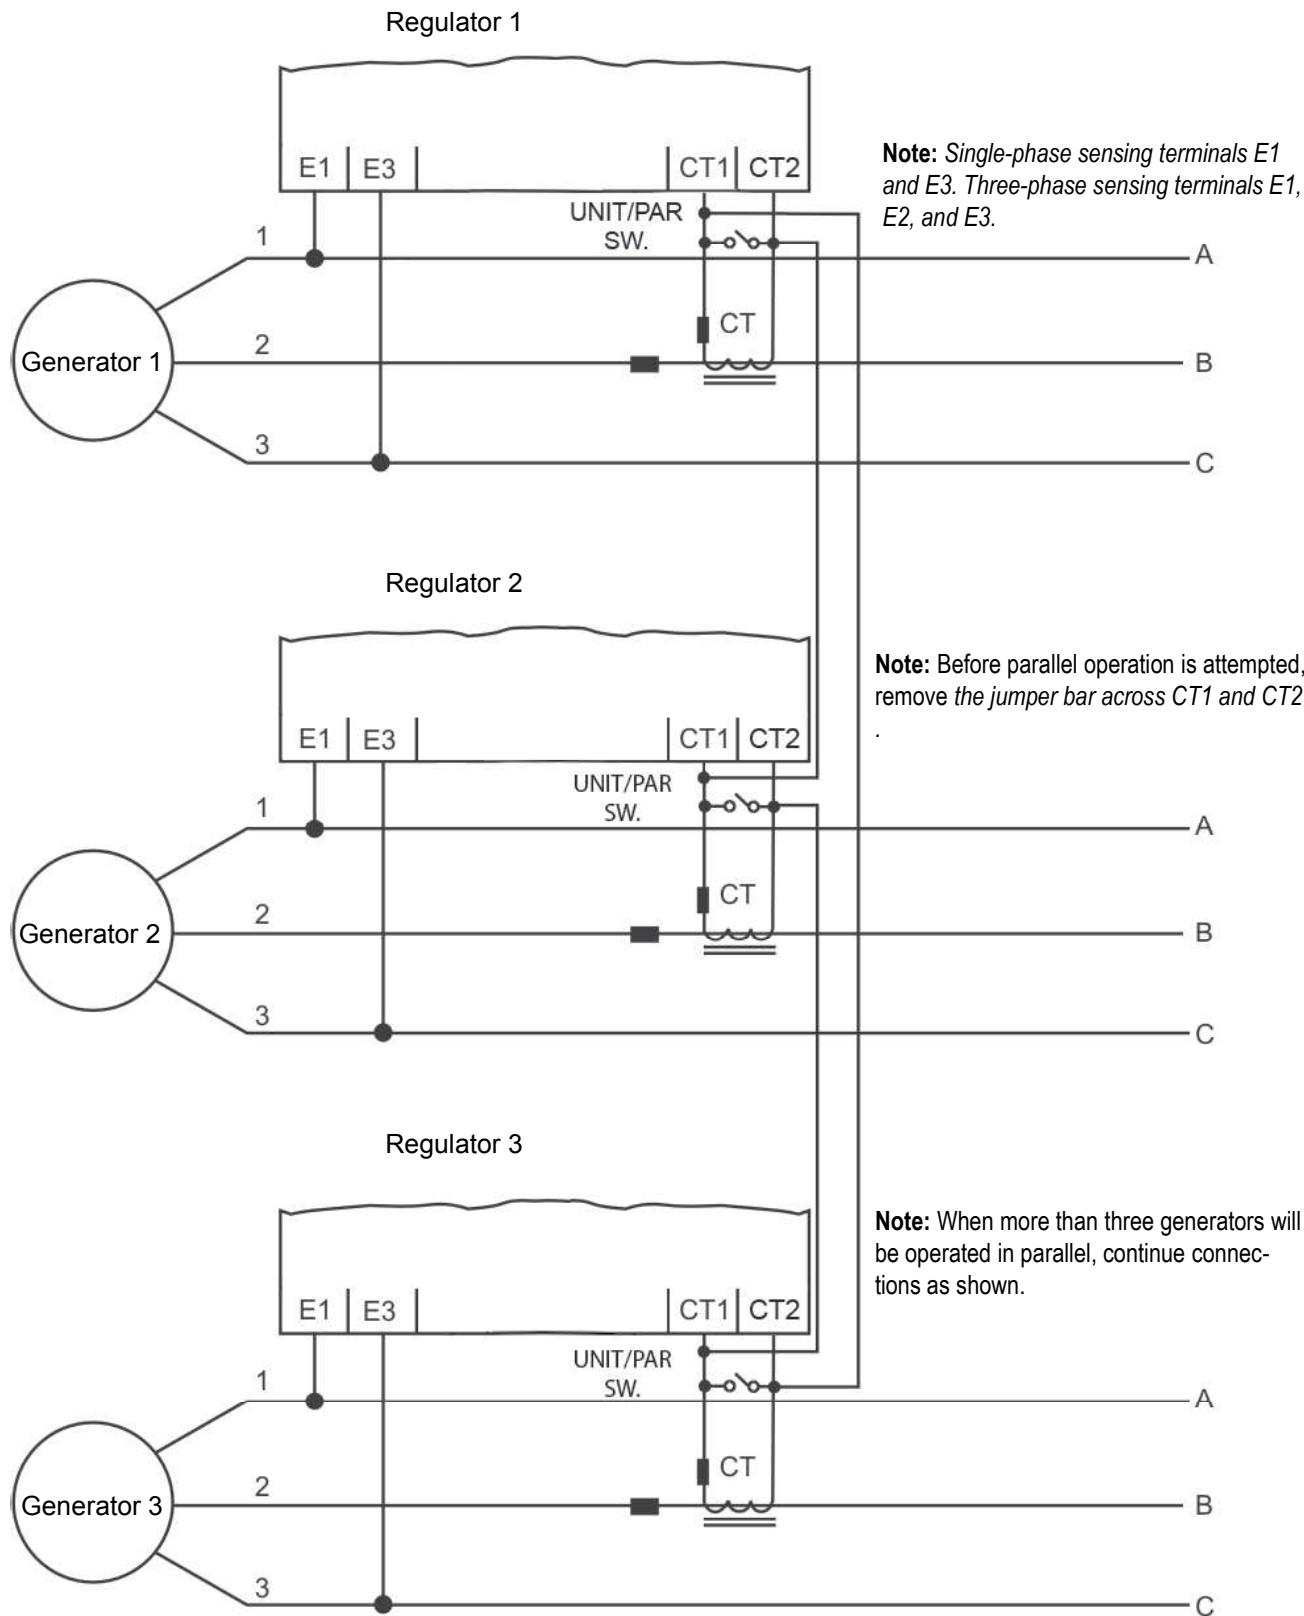

Figure 6: Crosscurrent CTs interconnection
**Sensing circuit during parallel generator operation in parallel cross-current compensation mode:** Parallel cross-current compensation allows two or more paralleled generators to share inductive reactive loads with no droop or decrease in the generator system output voltage when the line currents are proportional and in phase. This is accomplished by the action and circuitry described previously for parallel reactive voltage droop compensation and the interconnection of the current transformer secondaries in a closed series loop as shown in Figure 6. Circulating currents cause the system to react as described previously for parallel voltage droop compensation.
A unit/parallel switch connected in each generator system (as shown in Figure 6) eliminates the series resistance of the current transformers in shut down generator sets from the current transformers of the generator sets that are operating.
*Cross-current compensation:* For cross-current, connect each CT to its respective regulator. Then connect the finish of the first CT to the start of the second CT, the finish of the second CT to the start of the third CT, etc. Continue until all CT's are connected in series and connect the finish of the last CT to the start of the first CT (see Figure 6).